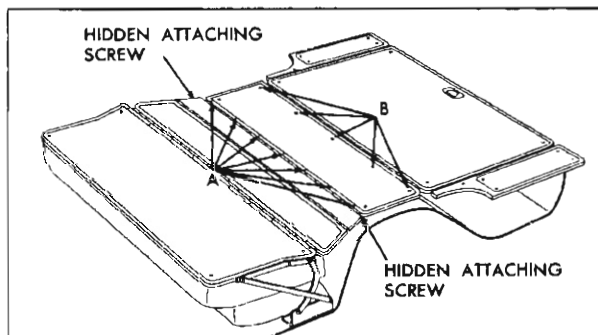

Fig. 17-9 Compartment Floor Panel Assembly
2. Remove rear floor filler panel to rear seat pan attaching screws as shown at "A" in Fig. 17-9.
**NOTE:** Attaching screws are located at each end of panel (See Hidden Attaching Screw, Fig. 17-9).
support panel attaching screws, shown at "B", Fig. 17-9 and remove compartment floor panel assembly from body.